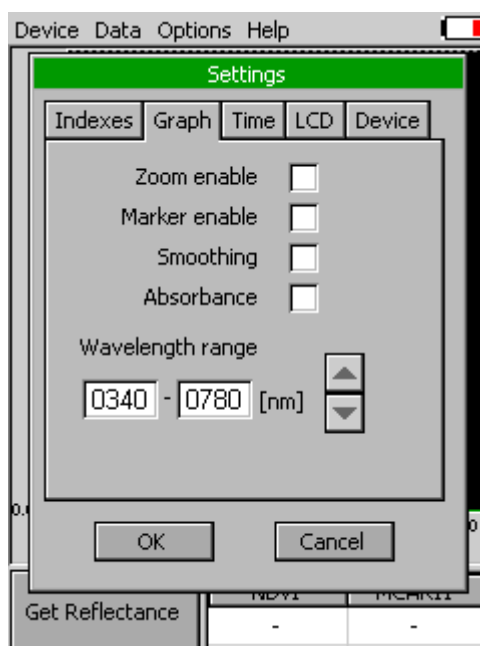

Fig. 11 Graph features
- **Graph** – displays options for setting the wavelength range and graph features (Fig. 11).